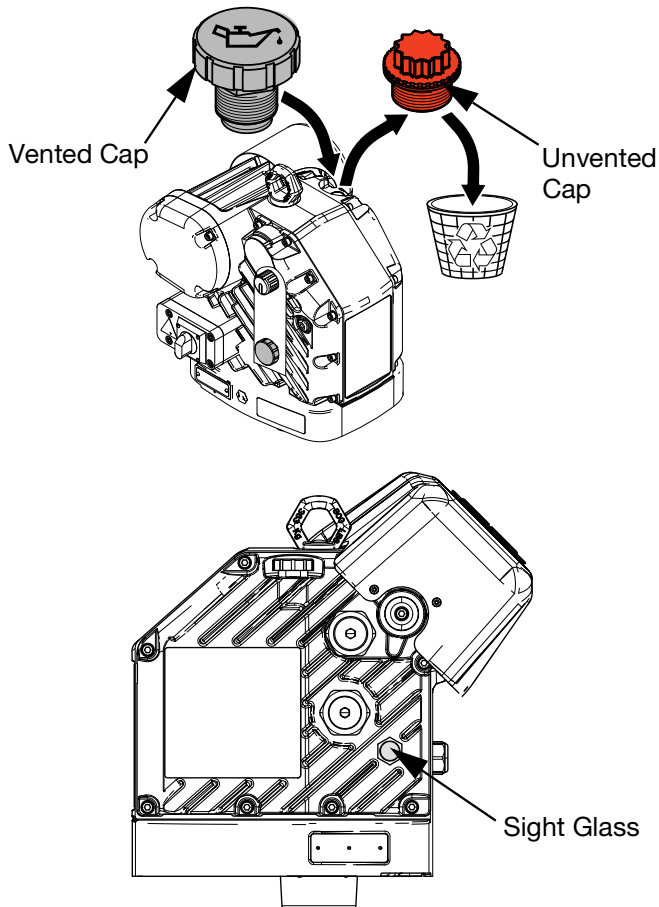

**FIG. 19: Ram Base**
1. Locate the correct set of mounting holes on the Ram Assembly base. See FIG. 19.